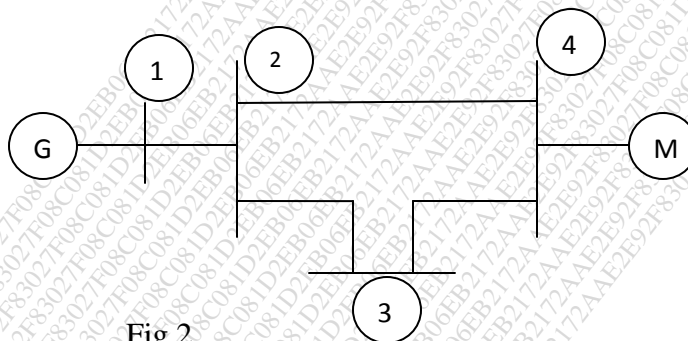

Fig.2
- For the power system shown in fig.2. Find A, \bar{A} and B.
- For the power system as shown in fig.2 obtain the B , \bar{B} and K . Take ground as Reference 08